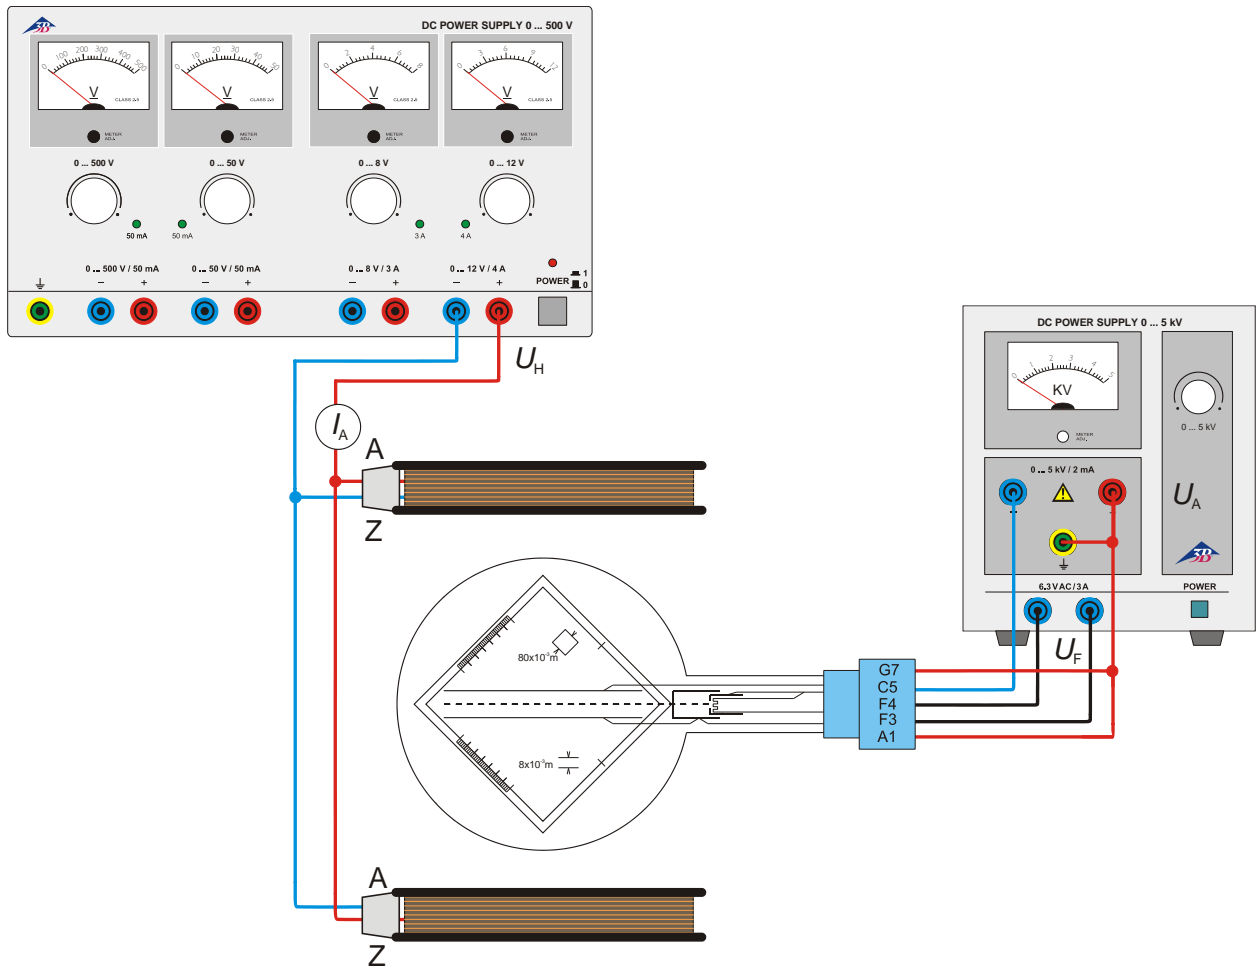

Fig. 2 Magnetic deflection
- Set up the tube as in Fig. 2.
- Set up the experiment as in Fig 2.